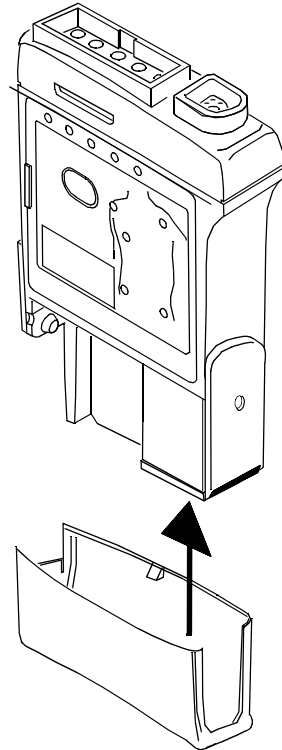

Figure 6-22 Align the Battery Door
Step 1. Align the Battery Door with the bottom of the transmitter. See Figure 6-22.